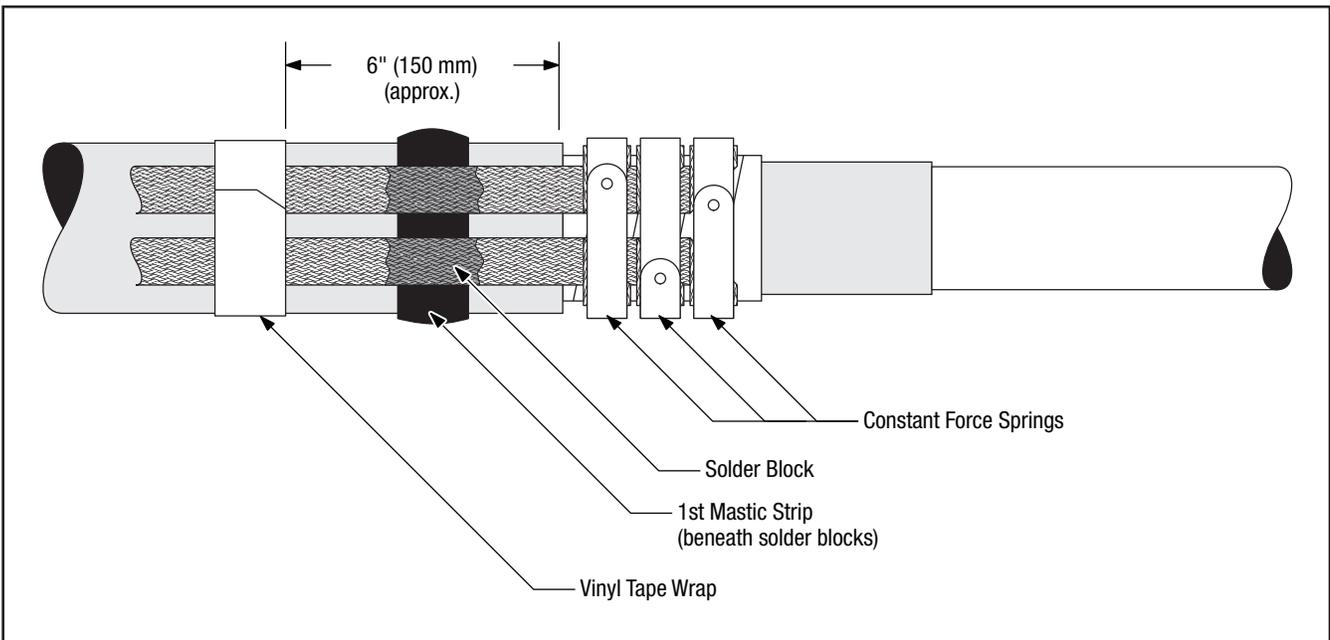

Figure 5
2.4 Select the roll of 1" (25 mm) wide 3M™ Scotch-Seal™ Mastic Tape 2229 from the kit. Cut a length of the tape long enough to wrap around the cable jacket. Remove the release liner from the mastic and, using light tension, apply a single wrap of mastic around the cable jacket, positioned under the ground braid solder blocks. (Figure 5)
2.5 Secure the two tails of the ground braid assembly to the cable jacket approximately 6 inches (150 mm) from the cable jacket edge with several wraps of vinyl tape. (Figure 5)